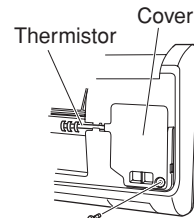
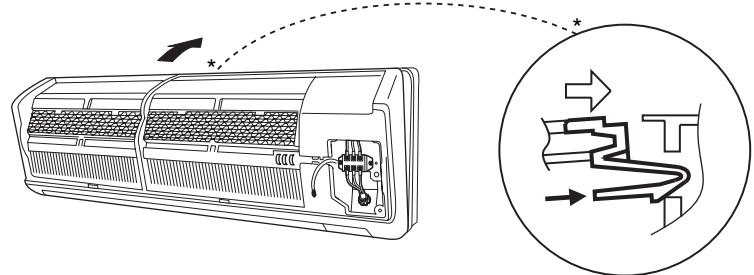

Fig. 17a
Fig. 18b
- (3) Remove the screw on the right side cover plate and open the cover. (Fig. 17a)
- (1) Reinstall the grille into the lower part while aligning its tabs on the upper part. (Fig. 18b) Insert the tabs in the slots and push the lower part of the grille back into position.
- (2) Make sure that the grille and frame are firmly fitted together by engaging the tabs.
- (3) Attach the thermistor on the grille. (Fig. 17a)
- (4) Close the cover and replace the screw. (Fig. 17a)